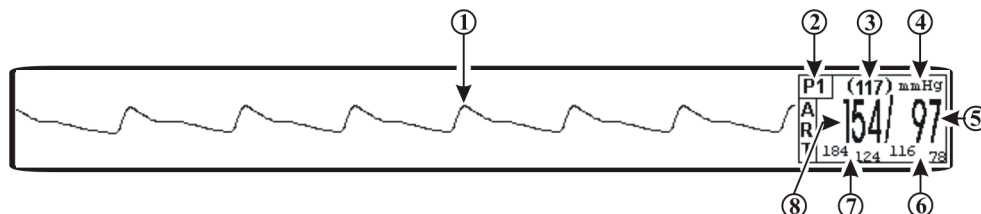

Figure 4-5. Invasive Pressure Display
4.3.1 Associated Waveforms and Displays. (See **Figure 4-5**) Invasive Pressure information is displayed as a waveform if selected for Trace location E or F and as numeric data in Boxes 4 and 5. The following is a description of the items contained within the Invasive Pressure Display.